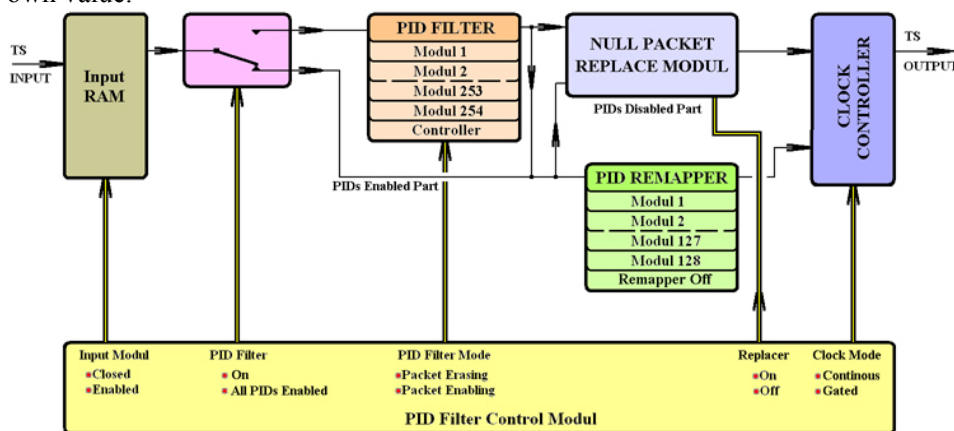

Figure 2
- Below both tables the mode of the PID Filter is shown, which is determined by the code in the right upper “Op Code” text box. The mode display is made upon this code. For orientation see the block diagram in Figure 2.